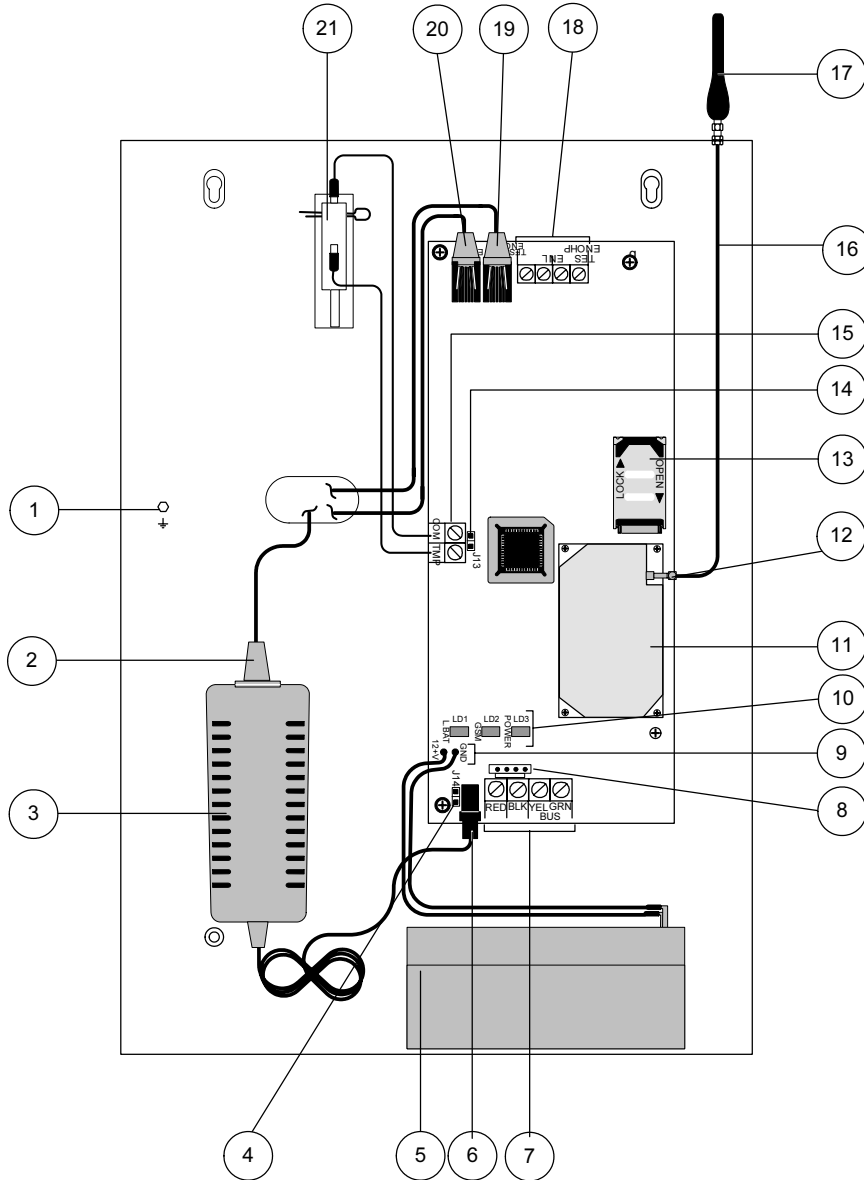

Figure 2. GSM /GPRS BUS Module - Components
A detailed description of the GSM/GPRS BUS Module components (when installed in metal box) is shown in Figure 2 and in Table 1.
7. Connect the PSTN line to the Line jack (19, Figure 2) on the GSM/GPRS BUS Module (wired configuration).
8. Connect the Line jack from the security panel to the Set jack on the GSM/GPRS BUS Module (20, Figure 2).
9. Connect the BUS Terminals from the GSM/GPRS module to BUS terminals on the security panel (terminal to terminal) as follows: (see item 13, Figure 2).
10. Attach the GSM/GPRS BUS Module antenna (1, Figure 2).